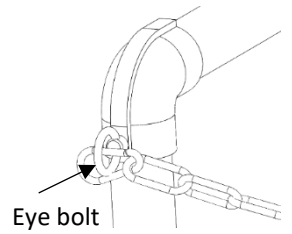

Figure 9
2. Install provided eye bolts in set screw holes, *figure 9*.